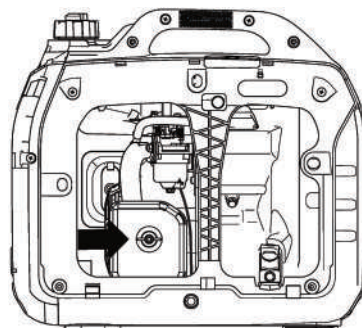

Figure 15: Unscrew air cleaner cover
3. Unscrew the air cleaner cover and tip the cover down (see Figure 15)